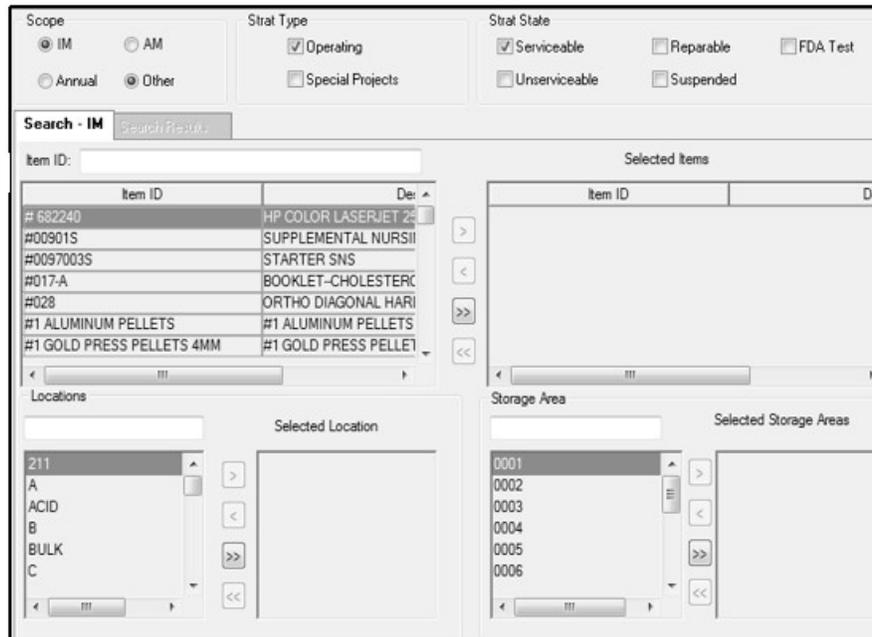

Figure 9. Select Inventory Segment Window
(1) The "Physical Inventory" module enables users to conduct an official physical inventory of some or all inventory managed by LOG. Refer to Military Service or DHA policy for scope and frequency requirements for conducting periodic official inventory. The Physical Inventory module allows the user to freeze assets for inventory, perform inventories, adjust balances, document inventories, review inventory documents, and cancel inventories. Select "Physical Inventories" from the "Navigate" menu to access the "Physical Inventories" module. A typical inventory process begins with selecting a set of items and locking them for inventory. The system produces count lists that are assigned to teams for conducting inventory counts. After all required counts are completed, potential overages and shortages are documented for research. The inventory can be finalized after research has been completed. Some tasks related to physical inventories are:
(2) Access the "Select Inventory Segment" window (Figure 9) to select items to lock for inventory. Locked items are assigned to inventory segments in Item ID sequence.